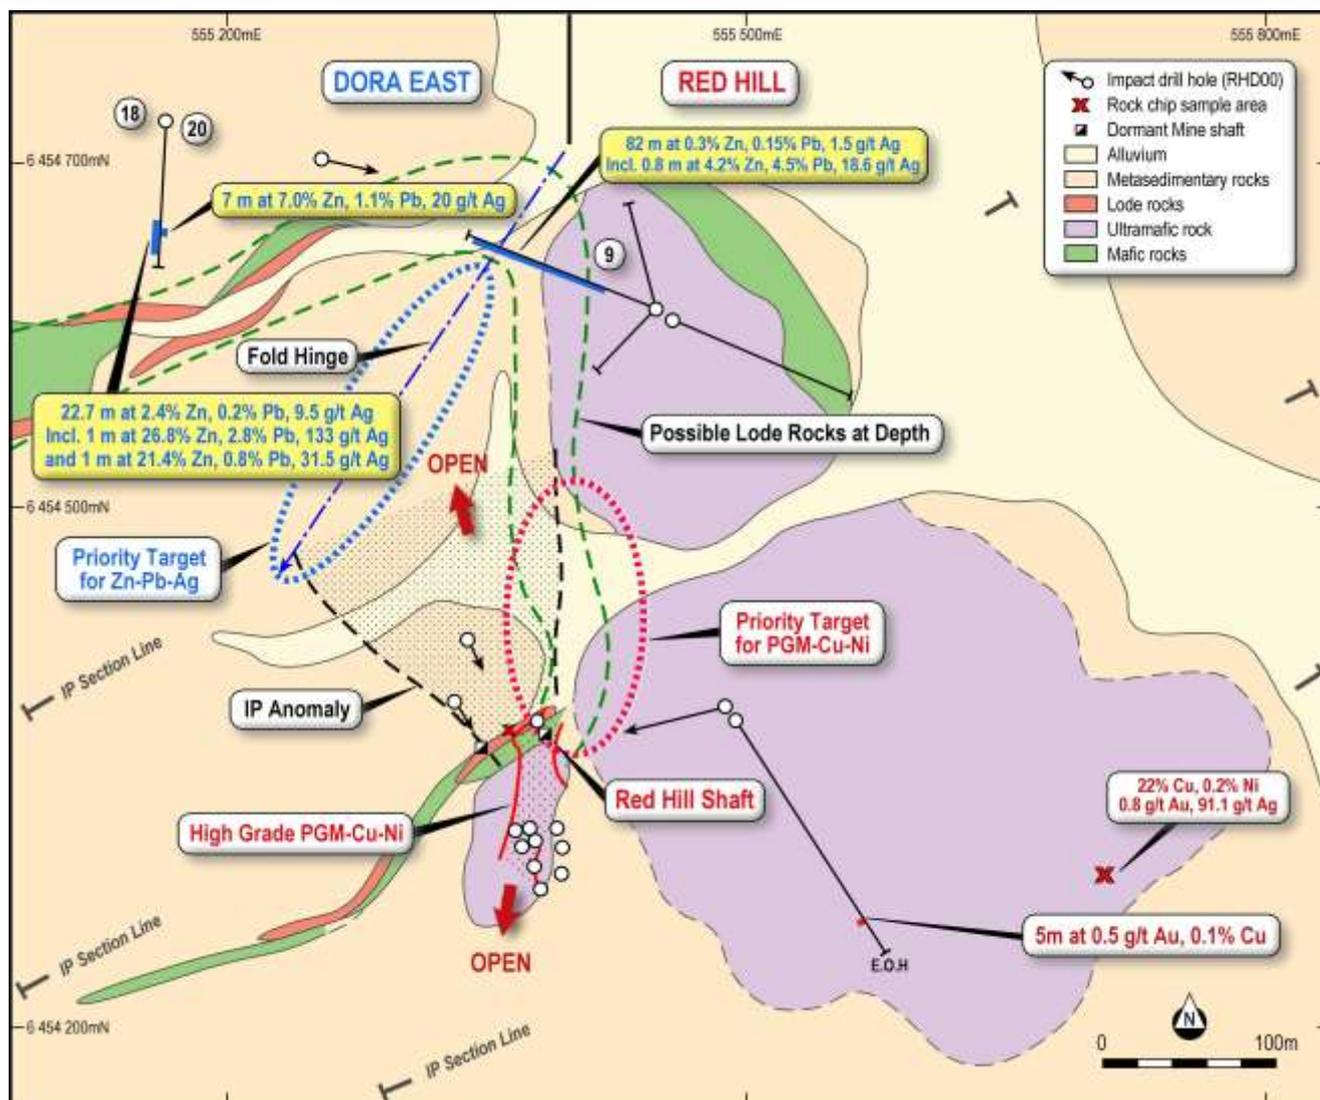

Figure 1. Geology and Drill Hole Location for the Dora East and Red Hill Prospects.
1.6 metres at 22.0% zinc, 3.6% lead and 66.7 g/t silver from 132.4 metres (Figures 1 and 2).
0.7 metres at 2.4% copper and 22.5 g/t silver from 109.5 metres (Figures 1 and 2).
The Lode Rocks comprise garnet-bearing metasedimentary rocks and amphibolite units (Figures 1 and 2).
Hole RHD020 was drilled up dip from previous very high grade intercepts in Hole RHD018 and 200 metres along trend from Hole RHD09 which returned a thick intercept of lower grade mineralisation (Figures 1 and 2).
5.1 metres at 10% zinc, 0.8% lead, 40.4 g/t silver from 148.4 metres including 1 metre at 26.8% zinc, 2.8% lead, 133 g/t silver (4 ounces) from 148.9 metres; and 1 metre at 21.4% zinc, 0.8% lead and 31.5 g/t silver (1 ounce) from 152.5 metres (Figure 1).
The mineralisation is open along strike and up and down dip and there are many hundreds of metres of trend that remain to be drill tested (Figures 1 and 2).
Recent detailed mapping and interpretation of geophysical data by Impact indicates that the Lode Rocks at Dora East are part of a large fold structure that plunges to the south west (Figure 1).
In addition, an Induced Polarisation anomaly was identified in this area by Impact in a survey completed several years ago (Figure 1). The significance of the anomaly was not clear at the time. However, in light of Impact's recent work, this is now a compelling target for disseminated Broken Hill style mineralisation.
Accordingly, in order to prevent confusion, the western part of the Red Hill Prospect that is prospective for the Broken Hill style mineralisation, has been renamed the Dora East Prospect (Figure 1). The prospect is so named because of several small dormant workings within lode rocks and located a few hundred metres to the west on an adjacent tenement that are called Dora.